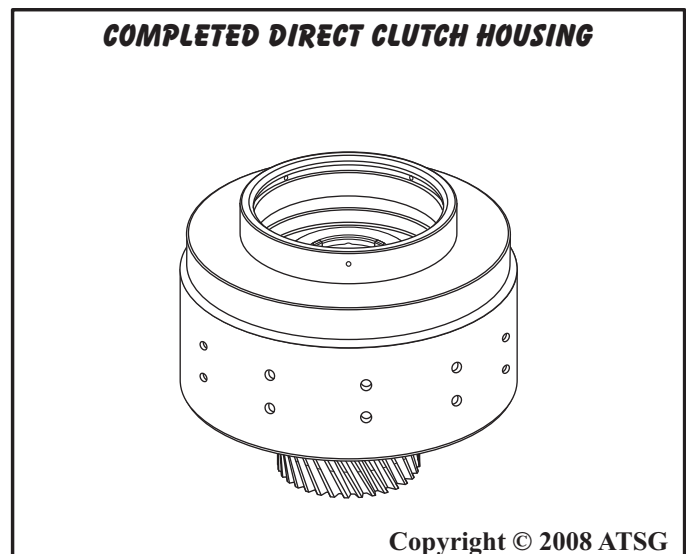

Figure 144
16. Set the completed direct clutch housing aside for the final assembly process, as shown in Figure 144.